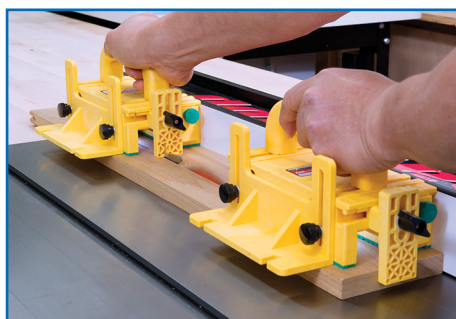

Figure 2
3. While the Gravity Heel is in this position the GRR-RIPPERS are attuned for the hand-over-hand (leapfrogging) method for long stock ripping. See Figure 2.